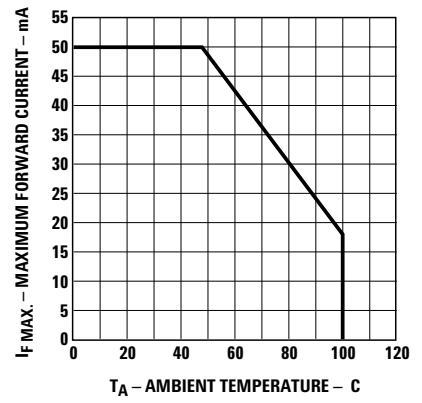

Figure 4. Maximum Forward Current vs. Ambient Temperature. Derating Based on  $T_{JMAX} = 130^{\circ}\text{C}$ .
- Derate linearly as shown in Figure 4.